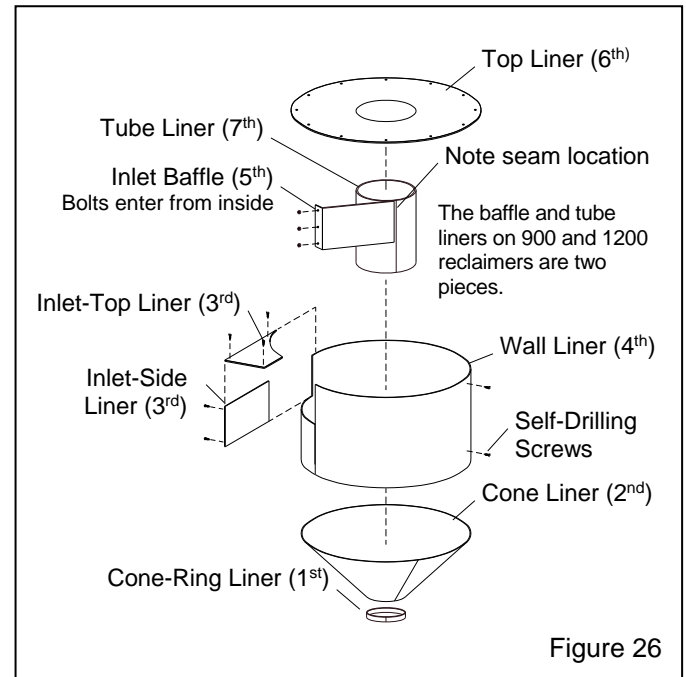

Figure 26
7.11 Replacing or Field Installing Optional Reclaimers Rubber Liners, Figure 26. The reclaimers must be designed to accept liners and have a removable top.
Installation Notes: The numbers in parentheses (-) shown in Figure 26 and the applicable paragraphs, show the recommended order of installation. When installing the liners, make sure that seams are aligned. The final assembly must be smooth and free of protrusions, edges, and gaps. Any edges will disrupt the air flow, causing wear, and affect the reclaimers's media cleaning efficiency.
7.11.18 (7th) Place the tube liner over the inner tube, and use worm clamps to temporarily clamp the liner to the tube. Align the tube liner so the seam is on the backside of the baffle, as shown in Figure 26. Make sure the tube liner is tight against the top liner, then tack it to the bottom of the inner tube in three or four places. Remove the clamps when the tube liner is secured.